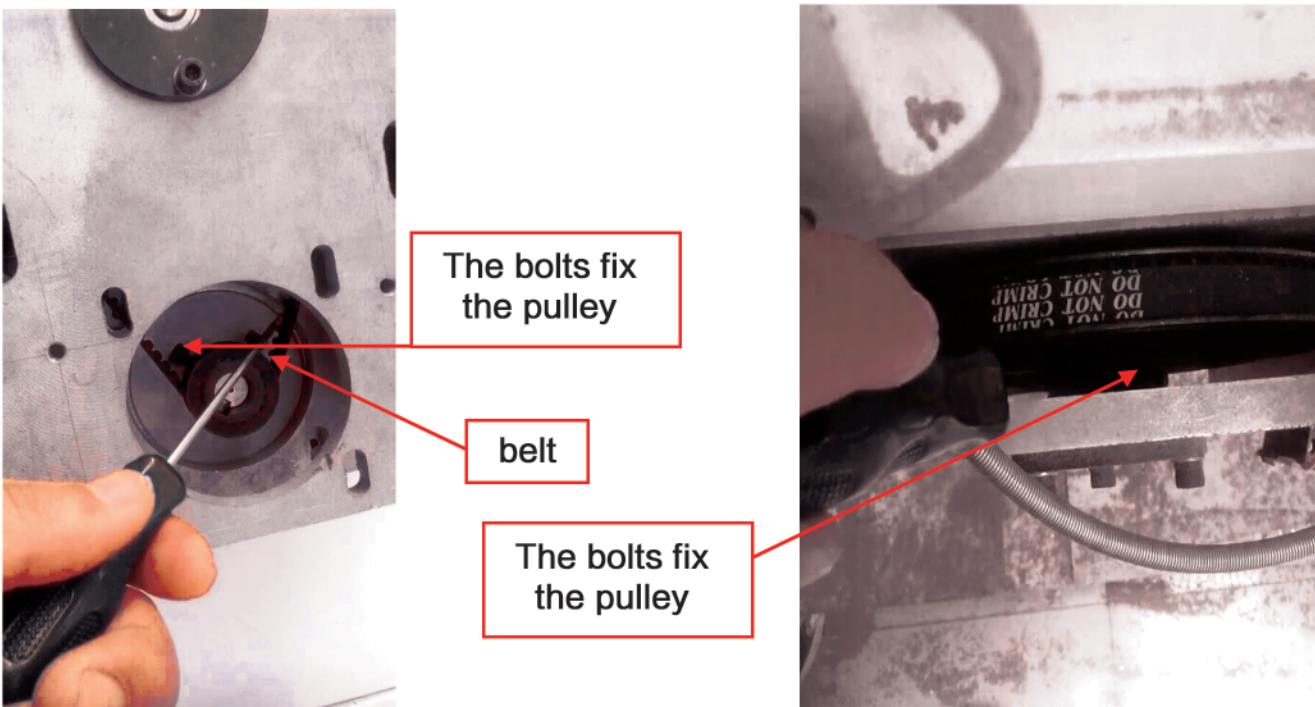

Fig.7 Check the bolts and belt of Y axis Gearbox
- Removing the support frame’ cover , check whether the belt in the Y axis’ gearbox are working well. If they are loose or damaged, you should tighten it or change a new one. (refer to Fig. 7).
Check the bolts in the pulley make sure they are fastened tightly (refer to Fig. 7 and 8).